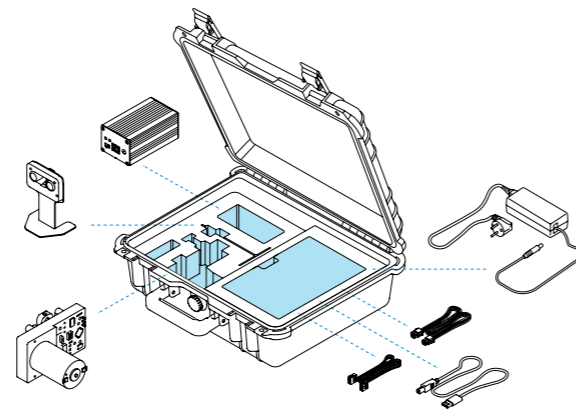

Figure 12.
4. Place the interface conversion block, power supply, cables, distance sensor and servo at the appropriate locations in the polyethylene foam logement of the transport case as shown in Figure 12.